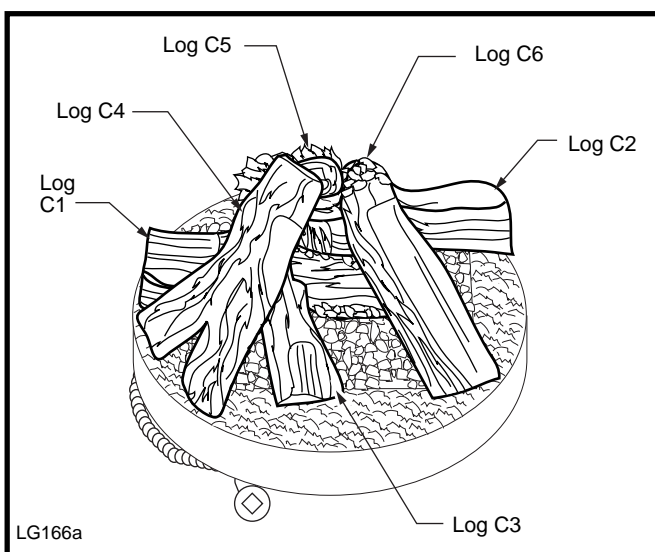

Fig. 15 Log C6 placement.
- Flex line on left. Place log C6 so the top of the log is over log C3 and bottom of log is over corner of the burner pan. (Fig. 15)